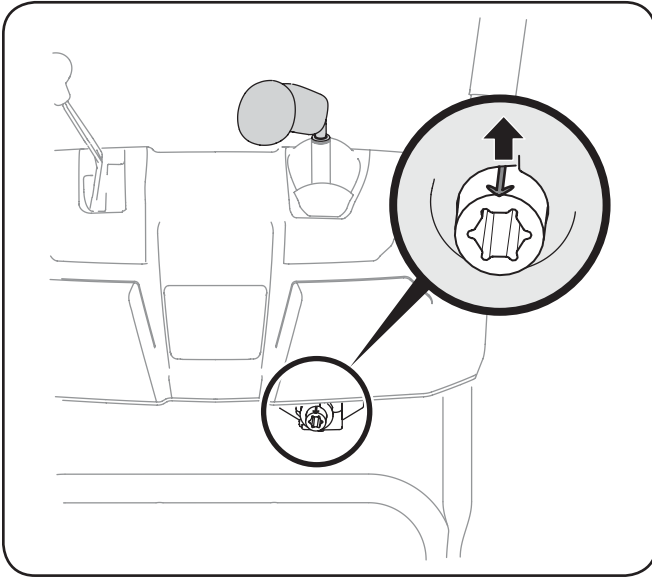

Figure 3-7
- Rotate the joystick to the one o'clock position so that the silver indicator arrow on the pinion gear below the control panel faces upward. See Fig. 3-7.